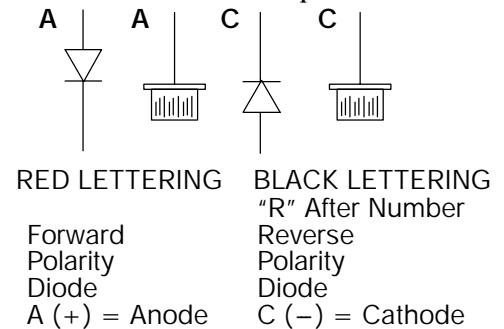

Figure 4-8. Diode Testing
2. A good diode should have a low resistance when the + of an ohm meter is connected to the anode and the - to the cathode, and a high resistance when the polarity of the ohmmeter is reversed. (See Figure 4-8)